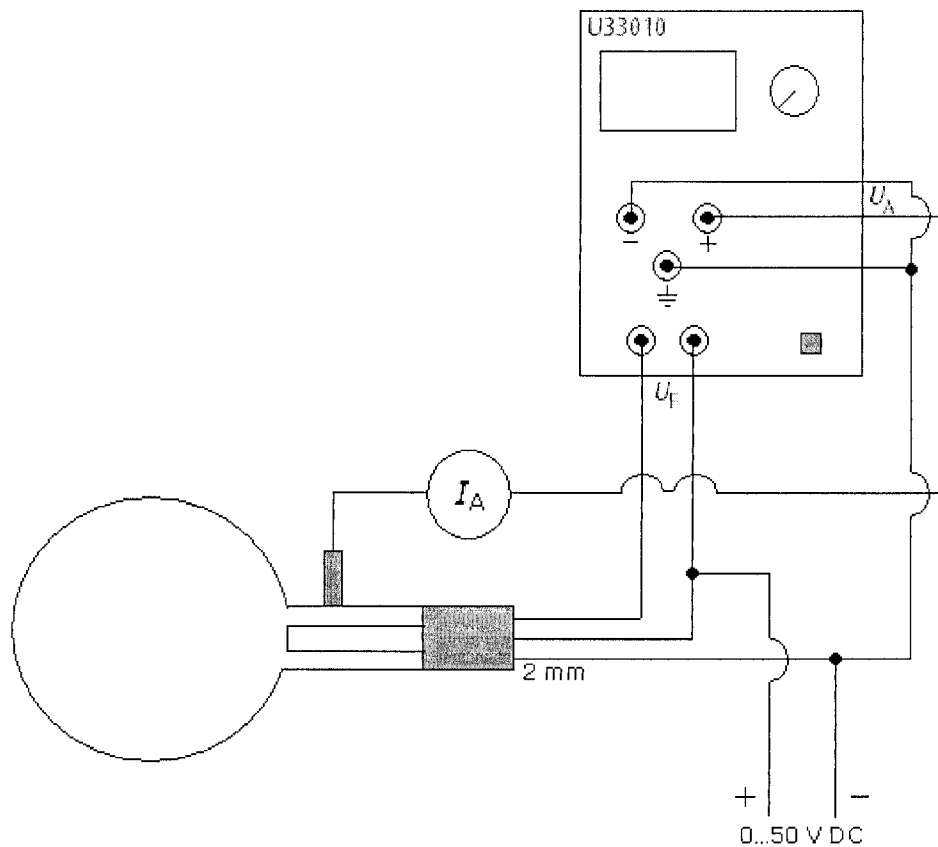

Fig. 2 Circuit of the diffraction tube, 0 - 50 V DC focussing voltage (optional)
The electron beam can be focussed by applying a focussing voltage of  $0 - 50 \text{ V DC}$  (connected as in Fig. 2). This can be used to make the rings clearer and easier to observe at lower anode voltages.
- Set up the experiment as in Fig. 2. Connect the negative pole of the anode supply via the 2-mm socket.